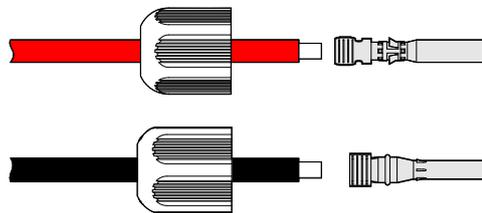

Figure3-19 Crimp the metal terminals
- Step 2 Loosen the lock nuts of the positive and negative connectors, draw the PV sting input positive and negative wires through the corresponding lock nuts, and crimp the PV sting input positive wire and negative wire to the positive and negative metal terminals respectively, and then check whether the positive and negative wires are crimped firmly, as shown in Figure3-19.